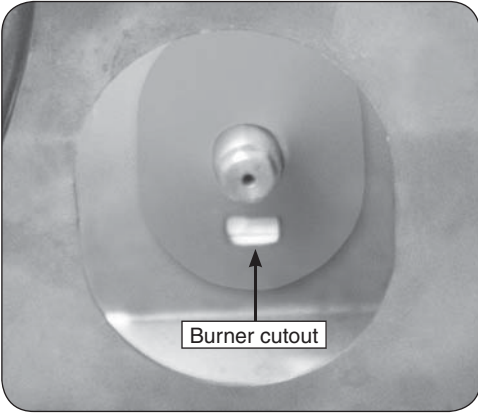

Fig. 1-2 Silicone gasket installed
7. Install the silicone gasket completely onto the orifice holder with the burner cutout on the bottom as shown in Fig. 1-2.